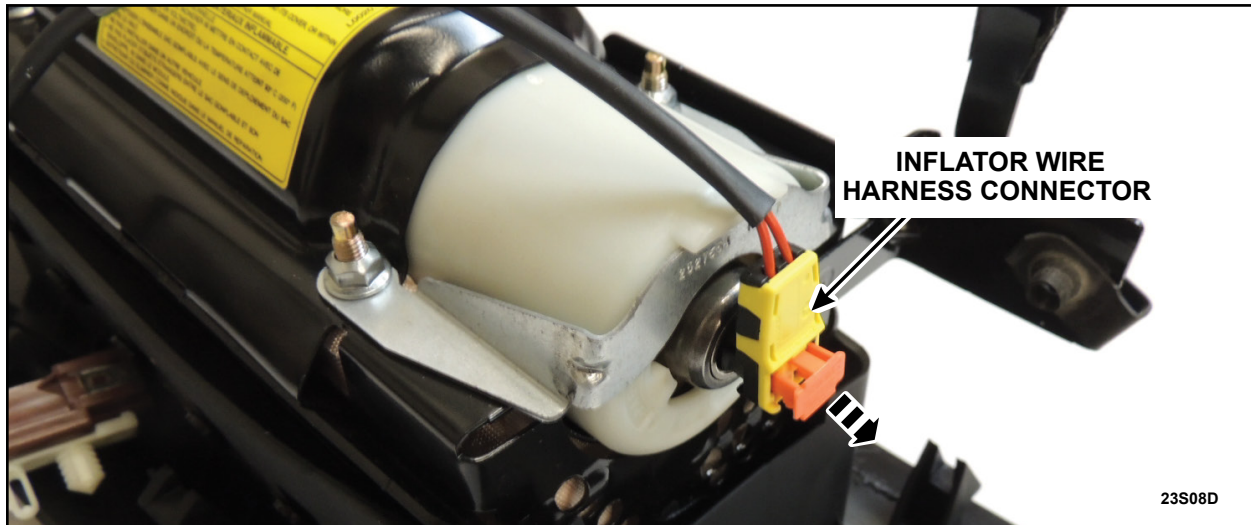

FIGURE 3
4. Disengage the orange tab and disconnect the wiring harness electrical connector. See Figure 3.
NOTE: Depending on how the inflator was previously installed, it is possible for the connector end of the inflator to be on either side of the airbag module. Figure 3 illustrates the connector on the inboard side of the module, but the process is the same if the connector end is on the outboard side of the module.